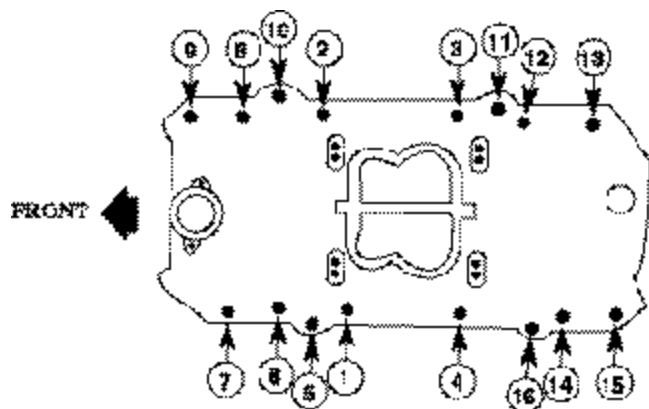

Figure 1 - Intake Manifold Bolt Torque Sequence
- 5) **WARNING:** There is no gasket support for the manifold on the four bolt holes which are numbered 5, 10, 11, and 16 in Figure 1. Damage to the manifold will occur if these four bolts are over-tightened. Hand tighten them with a 6" box-end wrench. Do not use a torque wrench. Torque all of the remaining manifold bolts in two steps by the sequence shown in Figure 1 to 25 ft/lbs. For ease of installation, we recommend using Edelbrock Manifold Bolt & Washer Kit #8564.